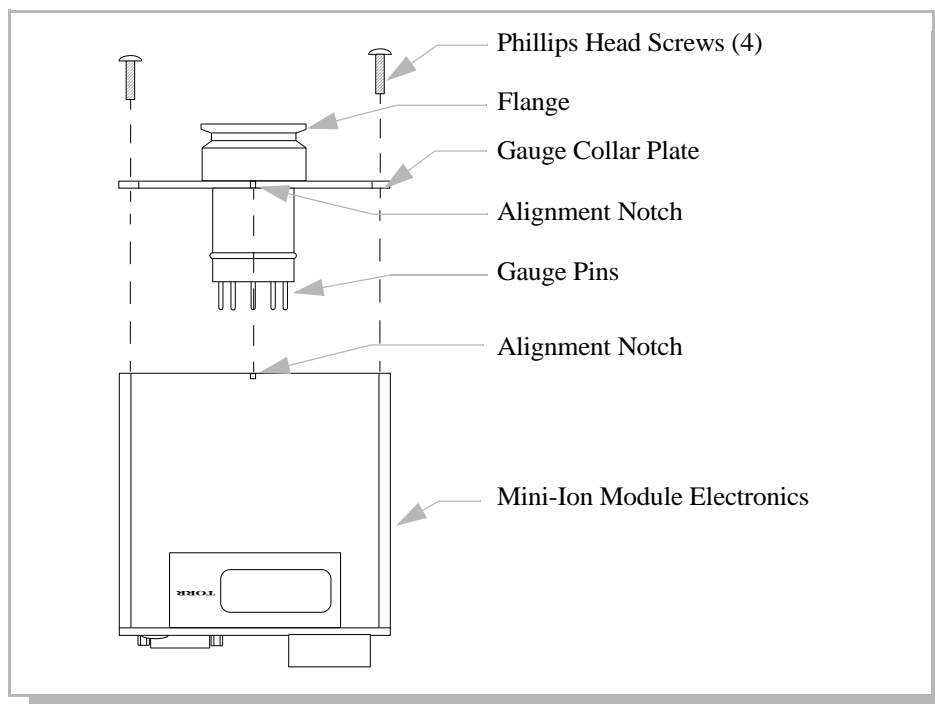

Figure 4-1 Mini-Ion Vacuum Gauge Module Removal.
4. Remove the four Phillips head screws from the gauge collar plate as shown in Figure 4-1.
5. While holding the flange, *gently* pull the Mini-Ion Vacuum Gauge Module away from the gauge collar plate as shown in Figure 4-1. The gauge tube and plate will disconnect from the module.